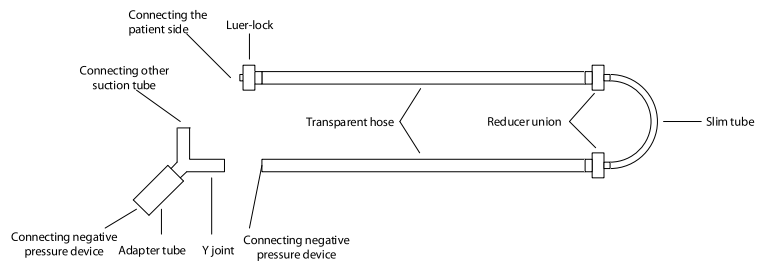

Figure 4-11 Installation of the suction tube
1. Connect the Luer-lock, transparent hose, adapter tube, and slim tube. As shown in Figure 4-11.
4. Install the transparent hose into the suction bottle of the suction device. To connect multiple suction tubes in a negative-pressure suction device, connect the transparent hose and adapter tube to the Y joint as shown in Figure 4-11. (The adapter tube should be connected to the straight end of the Y joint.) In this way, the adapter tube can be connected to the negative-pressure suction device, and the other end of the Y joint can be connected to other suction tubes. See Figure 4-11.